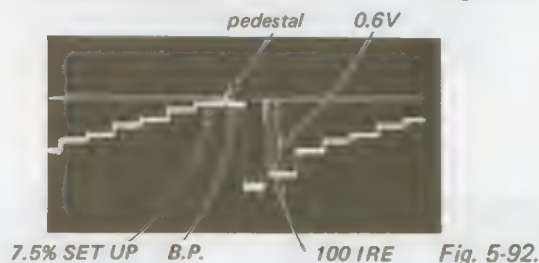

Fig. 5-92.
9. Adjust RV7 on the BC board so that the 7.5% SETUP level and the 100 IRE level become 0.6V. (See Fig. 5-92.)